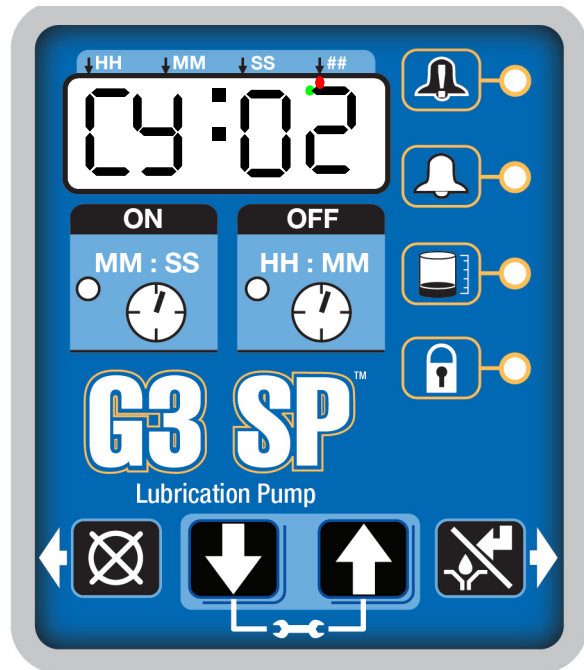

FIG. 30
2. When the OFF Time count reaches zero, the G3 Automatic Lubrication Pump turns the pump on and it runs for the programmed cycle ON (FIG. 30).
- A set number of triggered counts in a cycle based system (CY). Typically a proximity switch connected to a divider valve.
- The display indicates the sensor (CY) and the remaining cycles for that sensor (FIG. 30).
The example shown in FIG. 30 shows sensor CY with 2 cycles remaining.